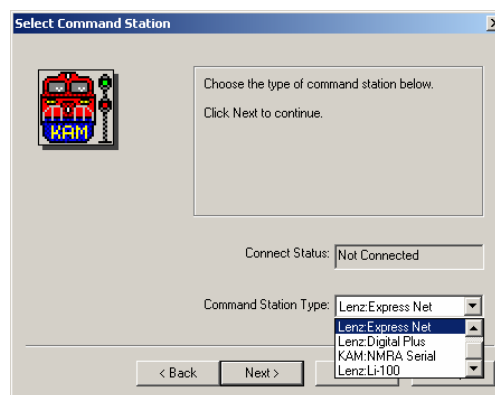

Figure 4: Command station selection
- The first configuration setting is the "**Logical Port**". (See Figure 4) Generally a logical port refers to where the command station is plugged into the PC. (which serial port, such as COM1.) Logical ports are a useful way to organize these physical connections rather than the using the Windows-specific device names. Your computer might have a COM1 but the next port might be COM3. Or your command station might be connected through a USB port. Logical Ports allow multiple command stations to be configured with simple number assignments, regardless of their physical PC port connection. They also allow you to move a command station to a different physical port without needing to reconfigure any applications other than Train Server since the logical port will still refer to the same command station, even on a different physical port.